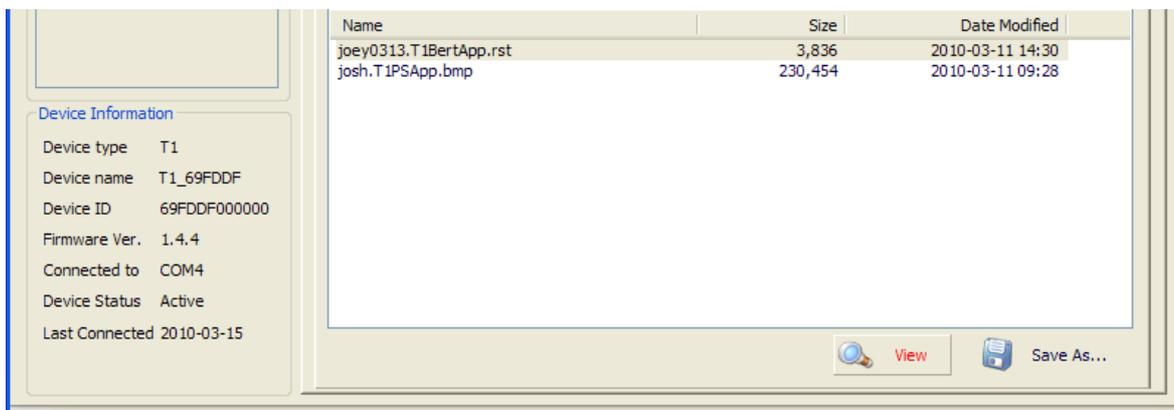

Figure 6 View results
- 3 To view the results, double-click the file, or select the file and then click **View**. See Figure 6.